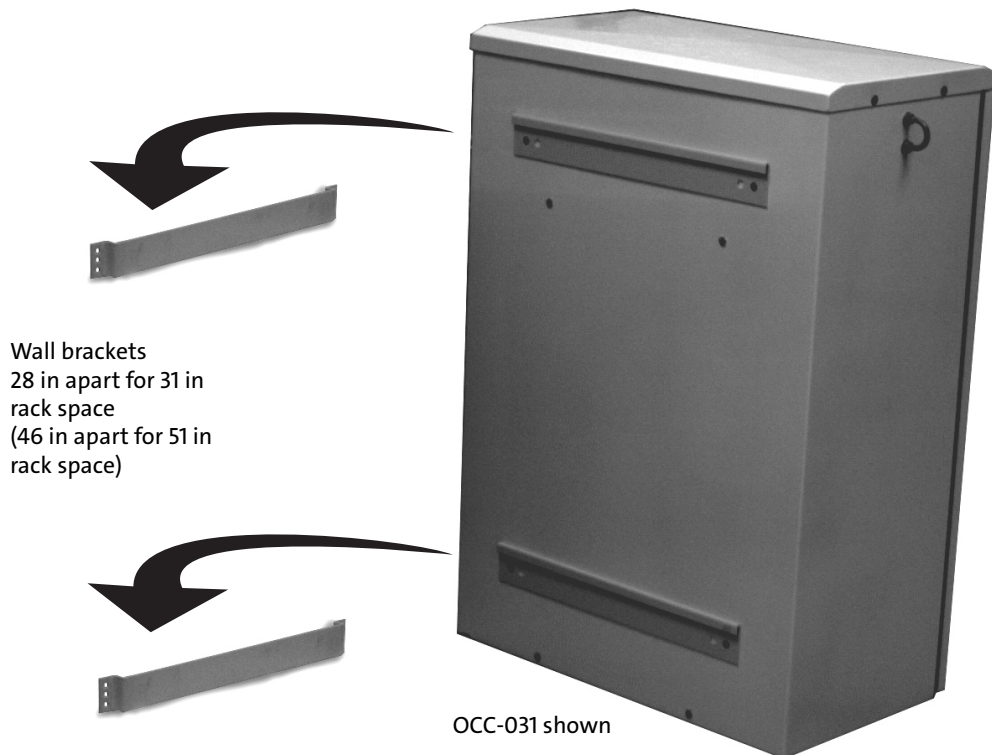

Figure 4
- Step 2:** Mark hole locations as illustrated in Figure 4. Drive anchors or wood screws in at these locations and attach mounting brackets.